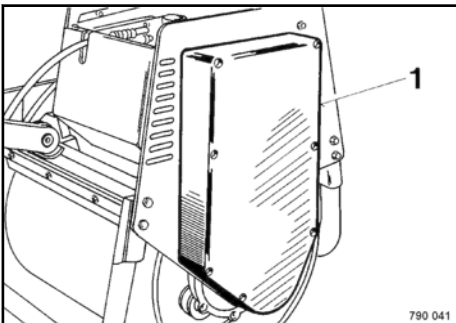

Fig. 54
Remove the guard (1) ↗ Fig. 54.